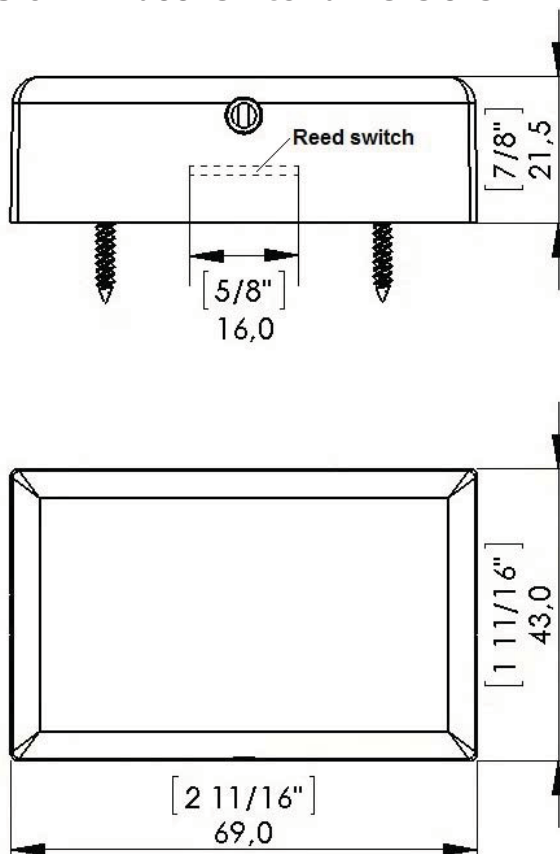

Figure 84
**Note:** For best operation, the magnet should be installed maximum 10 mm (25/6") from the reed switch which is located as in Figure 84.